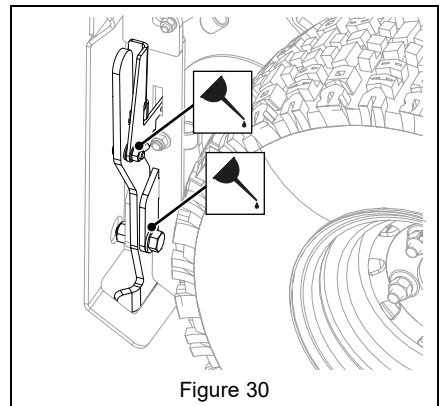

Figure 30
2. Lubricate as shown in Figures 30 - 35.